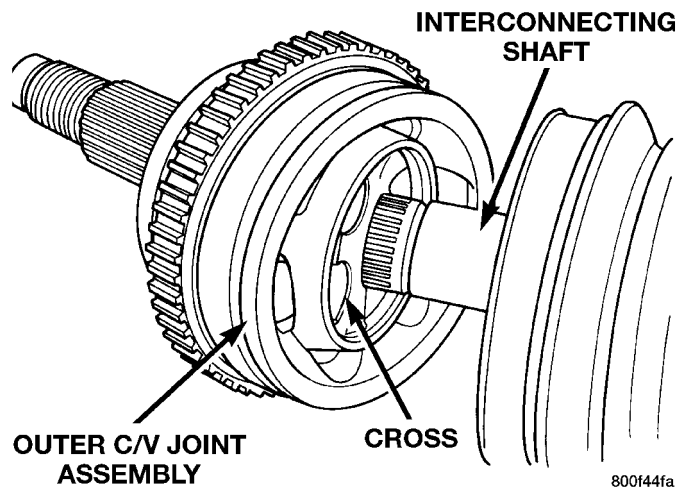

Fig. 49 Outer C/V Joint Correctly Installed on Interconnecting Shaft
(4) Outer C/V joint assembly must be installed on interconnecting shaft until cross of outer C/V joint assembly is seated against circlip on interconnecting shaft (Fig. 49).